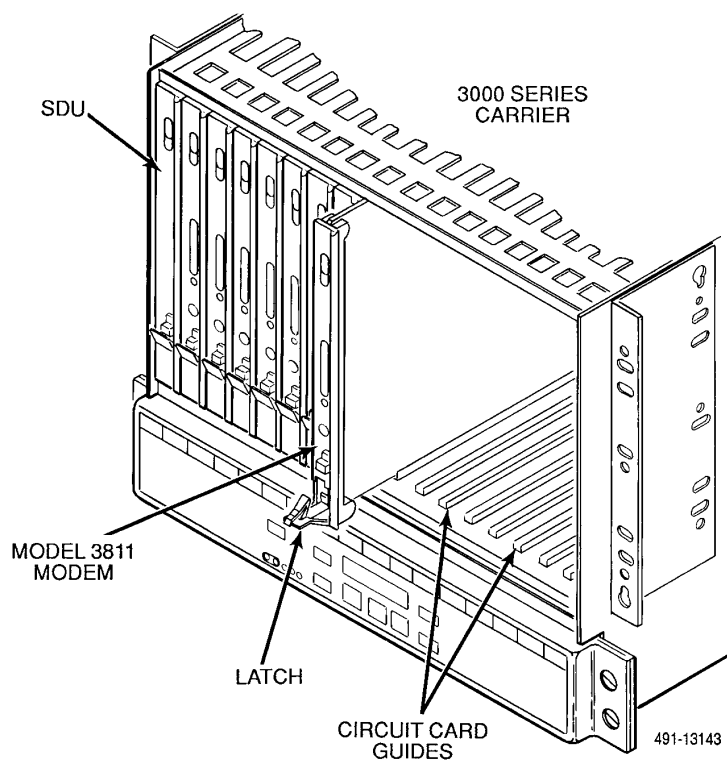

Figure 3-2. Installing a Model 3811 Modem
2. At the front of the carrier, hold the modem vertically, with the latch on its faceplate in the open position, and insert it into the top and bottom card guides of one of the slots numbered 1–16 (see Figure 3-2).